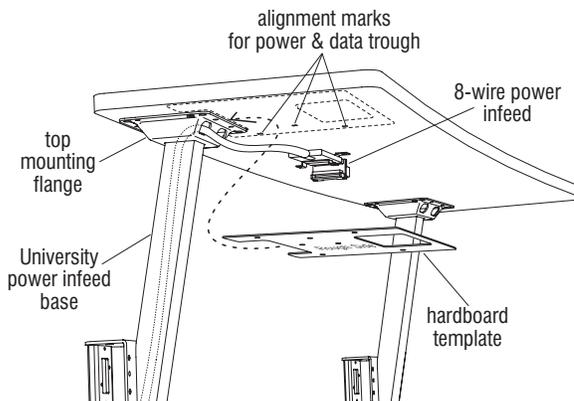

Figure 12
Note: The instructions below, as well as Figure 12 and the three Details, illustrate and explain the procedure of locating and marking alignment marks for a power & data trough where the infeed runs up a University Select base. Also, this section's three "Details" outline a "typical" layout with pre-drilled mounting holes and trough alignment marks in the underside of the worksurface. Each configuration may vary. Follow the space-planning layout and the
illustrated, position the template "smooth side" against the underside of the worksurface and slide the template up against the top mounting flange of the University Select base at the power (or data) infeed location (Figure 12 & Detail A).
33. With the template held correctly in place, mark the appropriate "alignment marks" through the three holes in the template, on one or both sides where a power & data trough will be installed in the steps ahead (Figure 12 & Detail A).